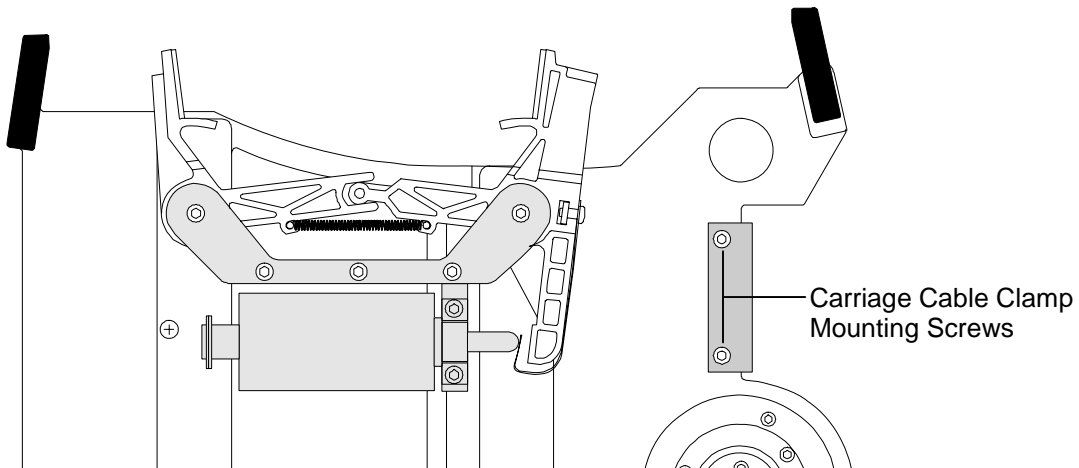

Figure 7-6 The Carriage Assembly – Top View
3. Use a 7/64-inch Allen wrench to remove both socket-head Carriage Cable Clamp mounting screws (Figure 7-6).
29. Insert the Carriage Cable Clamp into the mating recess on the upper surface of the Carriage casting (Figure 7-6).
30. Insert both Carriage Cable Clamp mounting screws (6-32 x 1/4-inch Socket Head Cap screws) into the mounting holes in the Carriage Cable Clamp (Figure 7-6), then firmly tighten the screws with a 7/64-inch Allen wrench.